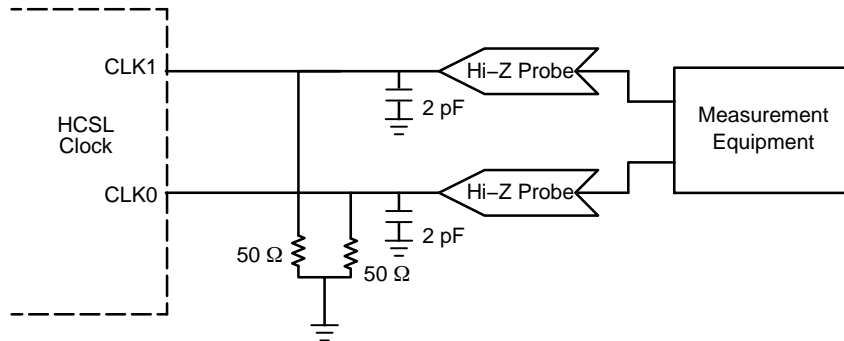

Figure 8. HCSL Parameter Measurement
8. Measurement taken with outputs terminated with  $R_S = 0 \Omega$ ,  $R_L = 50 \Omega$ , with test load capacitance of 2 pF. See Figure 8. Guaranteed by characterization.